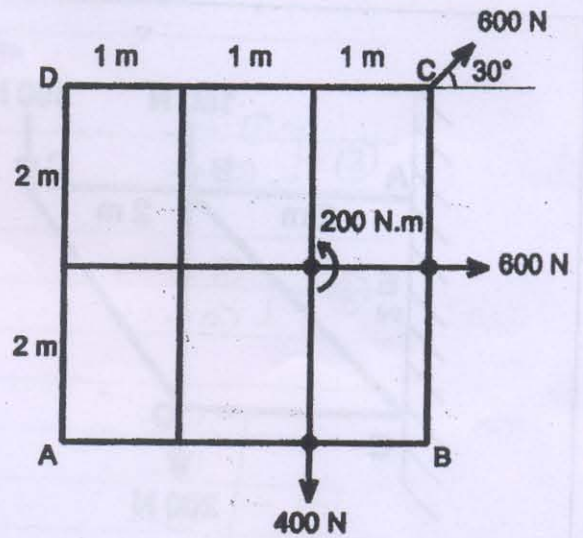

Figure 2
- (b) Find resultant for the force system shown in figure 2 with respect to point A. 06